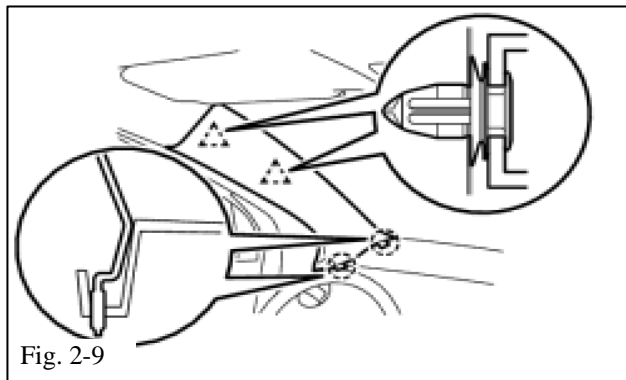

Fig. 2-9
- (8) Disengage the 2 clips and the 2 claws and remove the front pillar garnish. (Fig. 2-9)